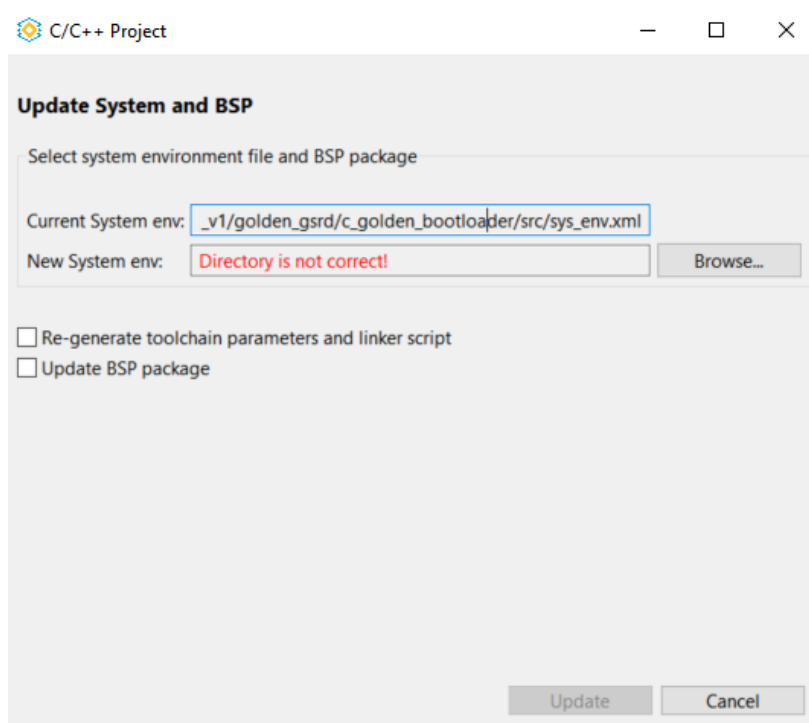

Figure 9.8. Update System Dialog Window
10. It opens the dialog box as shown in Figure 9.8.
11. Click **Browse** and select the **sys_env.xml** file generated as shown in Figure 9.8.